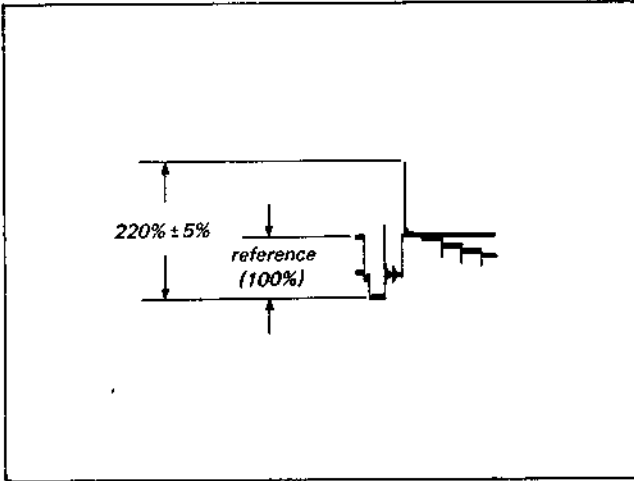

Fig. 4-4-16. White clip adjustment
- (1) Supply the VTR with the colour bar signal and set up the E-E mode.
- (2) Connect the oscilloscope to TP4 (collector of Q8).
- (3) Adjust RV5 so that the signal tip (white peak) is $220\% \pm 5\%$. (See Fig. 4-4-16.)